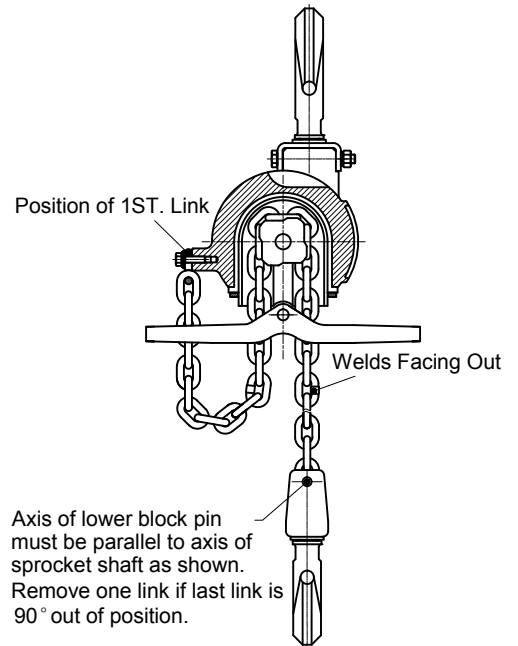
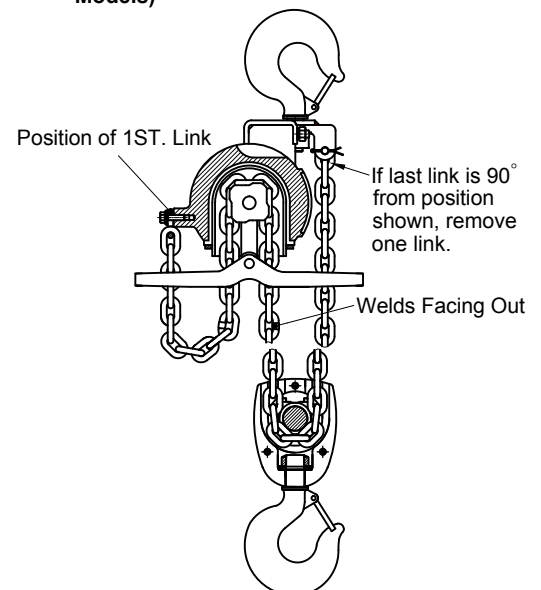

Figure 22 -Installing Single Reeved Load Chain (1/4 and 1/2 Ton Models)
Figure 23 -Installing Double Reeved Load Chain (1 Ton Model)
1. Make sure the weld on the second link faces "out" or away from the sprocket when installing coil chain on the hoist (See Figure 22). Then with the air off, brake cover removed, and brake shoes locked in "open" position (with wedge between control lever and hoist body), turn brake wheel in "hoist" direction and feed chain in through lever control into chain sprocket. Sustainably supply the chain through until approximately 15" to 16" hangs through the tail chain side of the hoist. Take the first link and swing it up (do not twist) (See Figure 22) to the frame boss and fasten in place. The rest of the chain can be pulled through, and then the lower block fastened in place (on single reeved hoist). On double reeved hoist, allow approximately 17" to 18" of chain to hang on the lifting direction side (See Figure 23). Run the lower block assembly onto chain and swing (do not twist) the remainder of the chain up and attach to lug on suspension bracket. Remove wedge from between lever and frame and replace covers.
NOTE: Do not twist the chain. Position the link welds as shown in Figure 23.